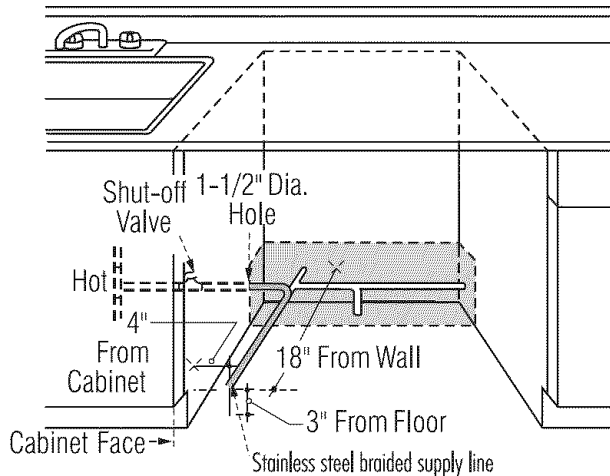

Figure 6
- The hot water line may enter from either side, rear or floor within the shaded area shown in Fig. 6
- The water connection is located on the left front side of the dishwasher. Install the hot water inlet line, using a braided flexible hose (available at most hardware stores). Route the line as shown in Fig. 6 and extend it forward at least 18" from the rear wall.